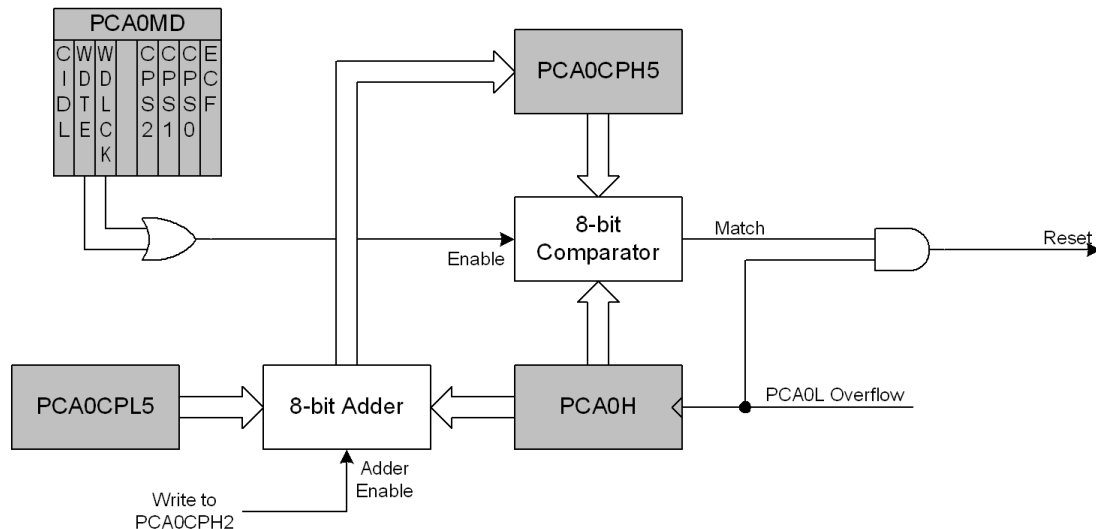

Figure 26.11. PCA Module 2 with Watchdog Timer Enabled
While the WDT is enabled, writes to the CR bit will not change the PCA counter state; the counter will run until the WDT is disabled. The PCA counter run control bit (CR) will read zero if the WDT is enabled but user software has not enabled the PCA counter. If a match occurs between PCA0CPH5 and PCA0H while the WDT is enabled, a reset will be generated. To prevent a WDT reset, the WDT may be updated with a write of any value to PCA0CPH5. Upon a PCA0CPH5 write, PCA0H plus the offset held in PCA0CPL5 is loaded into PCA0CPH5 (See Figure 26.11).